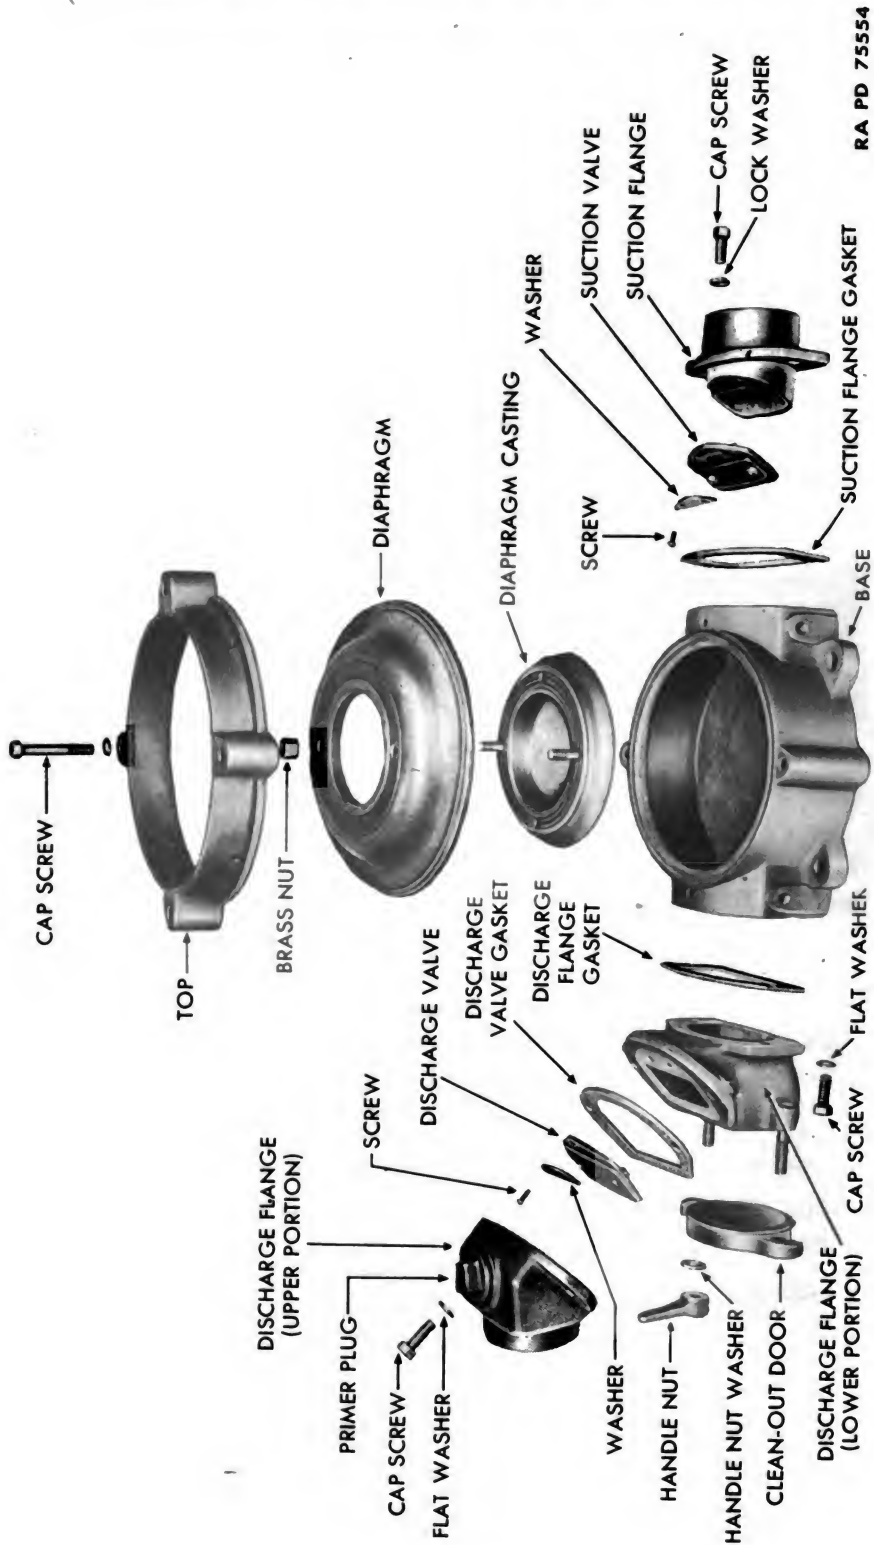

Figure 84 — Engine-driven Diaphragm Pump — Exploded View
(5) Lift pump base from frame.
b. Disassembly of Pump (fig. 84). *NOTE: Pump may be disassembled while installed on frame. Note, also, that diaphragm was removed in steps (1) and (2), above.*
(1) Remove the two handle nuts and washers which secure clean-out door to discharge flange. Lift plate from flange.
(2) Remove the two cap screws and flat washers which secure upper portion of discharge flange to lower portion. Lift upper portion of flange and gasket from lower portion.
(3) Remove the two cap screws and flat washers which secure discharge flange to pump base. Lift flange and gasket from base. Remove the two screws which secure flap type discharge valve to discharge flange. Lift valve from flange. To remove rubber from valve, remove the two cap bolts and nuts which clamp rubber between two plates.
(4) Remove the two cap screws and lock washers which secure suction flange to pump base. Lift flange and gasket from base. Remove the two screws which hold flap type suction valve to flange. Lift valve from flange. To remove rubber from valve, remove the two brass nuts and cap bolts which clamp rubber between two plates.
c. Assembly of Pump (fig. 84).
(1) Assemble suction valve by placing iron plate, rubber flap, and remaining iron plate on two cap bolts. Tighten cap bolt nuts on